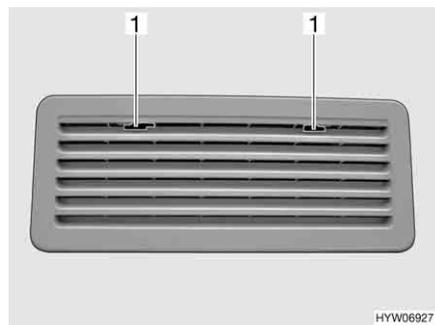

Fig. 176 Refrigerator ventilation grill
- Move the locking device (Fig. 176,1) to the middle.